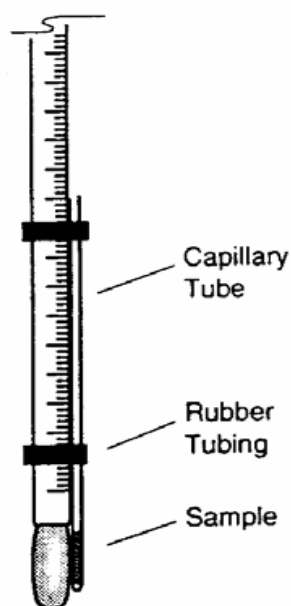

Fig.1- Thermometer for the melting point
2. The capillary tube is attached to a thermometer (by a rubber ring) as shown in (fig. 1) in such a way that its closed end is attached to the bottom of the thermometer's bulb.